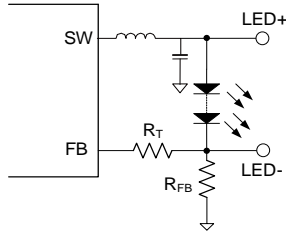

Figure 5: Feedback Network
The output current ( $I_{LED}$ ) is set by the external resistor  $R_{FB}$  (see Figure 5).  $I_{LED}$  can be calculated using Equation (1):